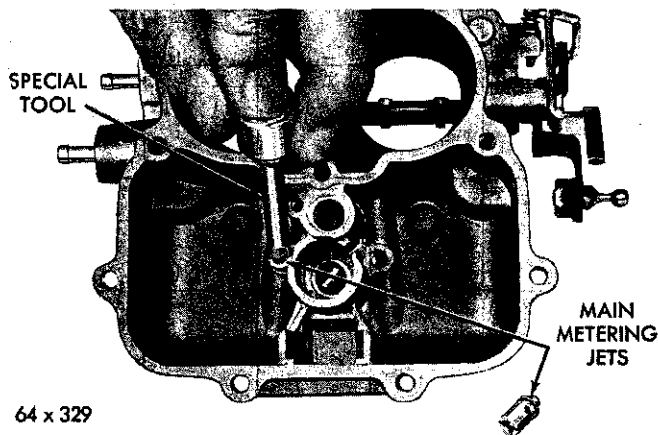

Fig. 3—Removing the Main Metering Jet
(12) Remove the main metering jets and gaskets, as shown in Figure 3.
(6) Install the main metering jets and gaskets. Tighten securely (Fig. 3).